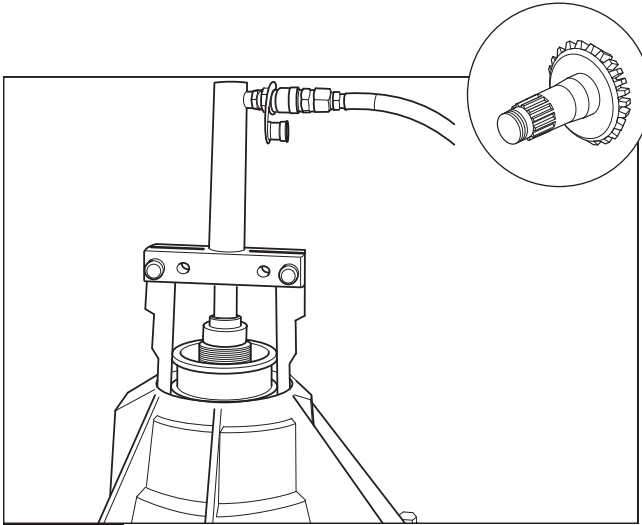

Fig. 2.21
21. Press pinion out of carrier with use of service tool CT16. (Fig. 2.21)